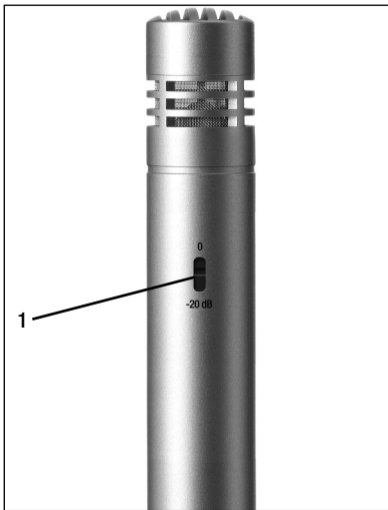

Fig. 1: Preattenuation switch (1) on microphone rear.
- **Switchable preattenuation pad:** The preattenuation switch (1) on the microphone rear (refer to fig. 1) lets you increase the headroom by 20 dB for distortion-free close-in recording. The preattenuation pad prevents the microphone's output level, particularly at low frequencies, from overloading the miniature transformers used in many mixer input stages, etc.